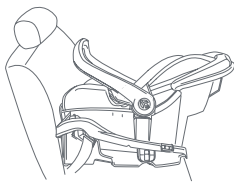

Fig. 51-1
1. **Safety Seat with Base:** Make sure the vehicle is parked on level ground. Lock the Safety Seat onto the Base and check that the Safety Seat is level side to side on the vehicle seat (Fig. 51-1). Check the Seat Angle Indicator that matches the weight of your child.